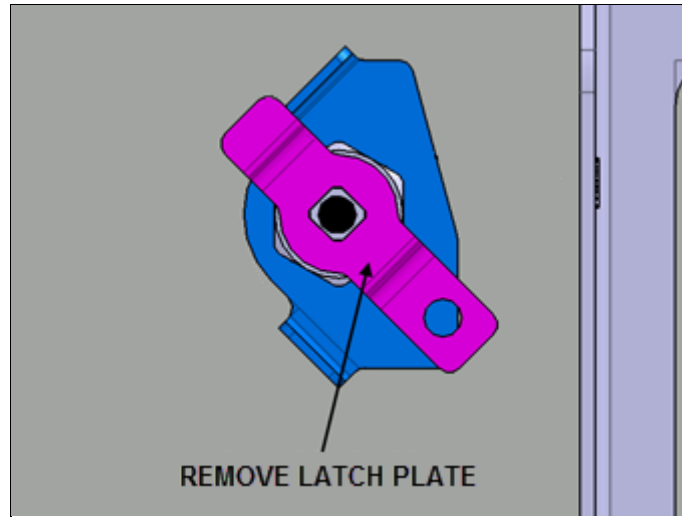

FIG.5 LATCH PLATE
5. Remove the latch plate (Fig.5).